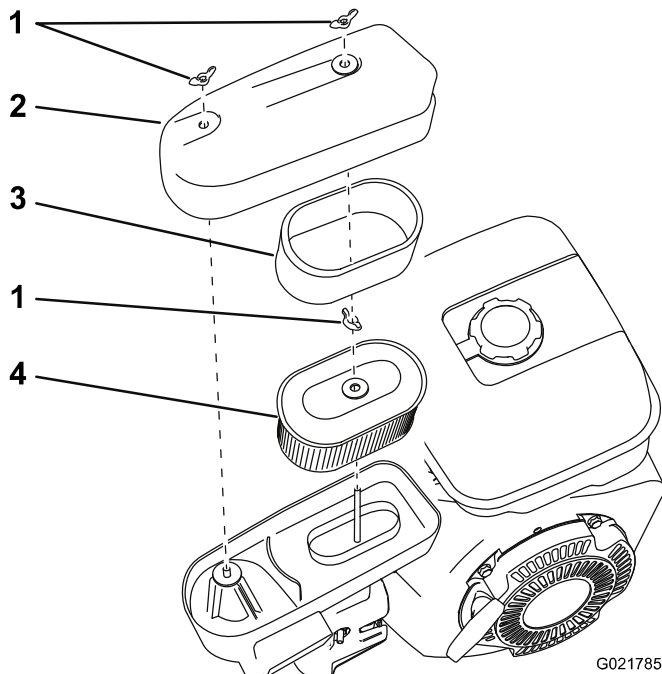

Figure 19
3. Remove the wing nuts that secure the cover (Figure 19).
6. Remove the foam and paper elements from the base (Figure 19).
7. Remove the foam element from the paper element (Figure 19).